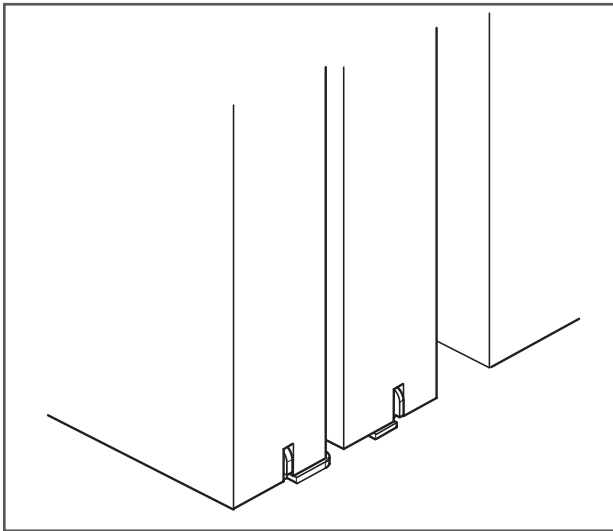

Figure 14
25. Position panels or doors over door guides as shown (Figure 14).